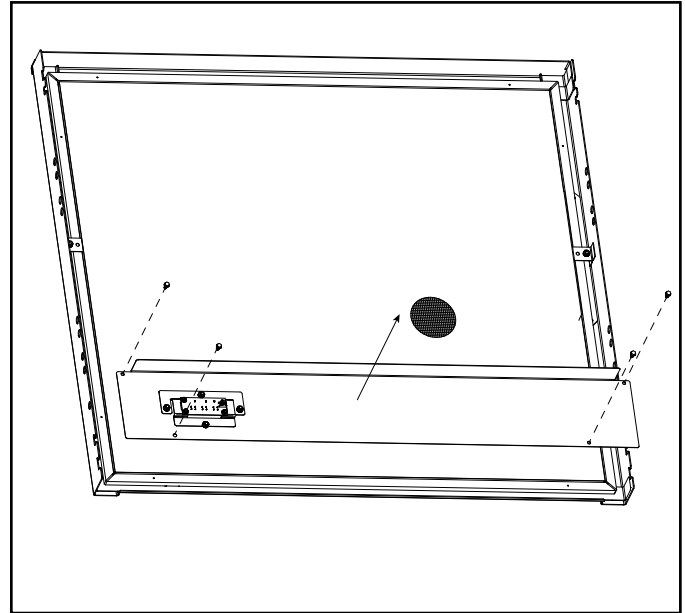

Figure 3.1 Vanity Panel Assembly Removal
2. Remove 4 screws securing vanity panel to decorative front. See Figure 3.1.